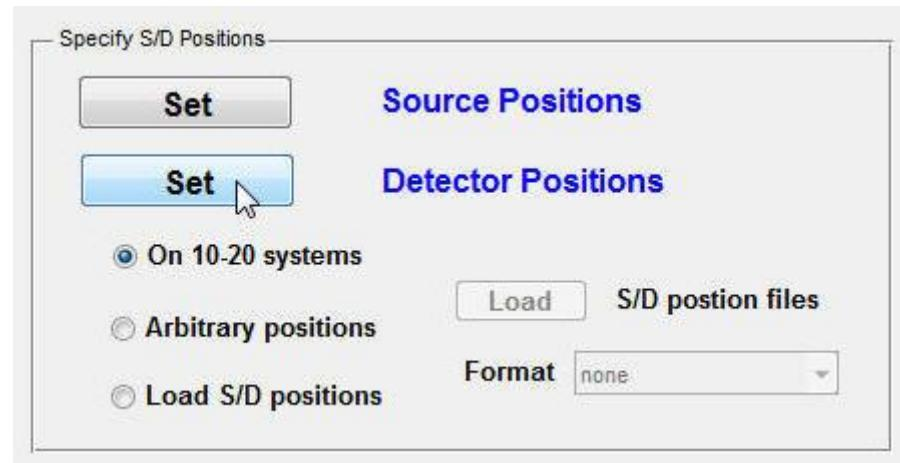
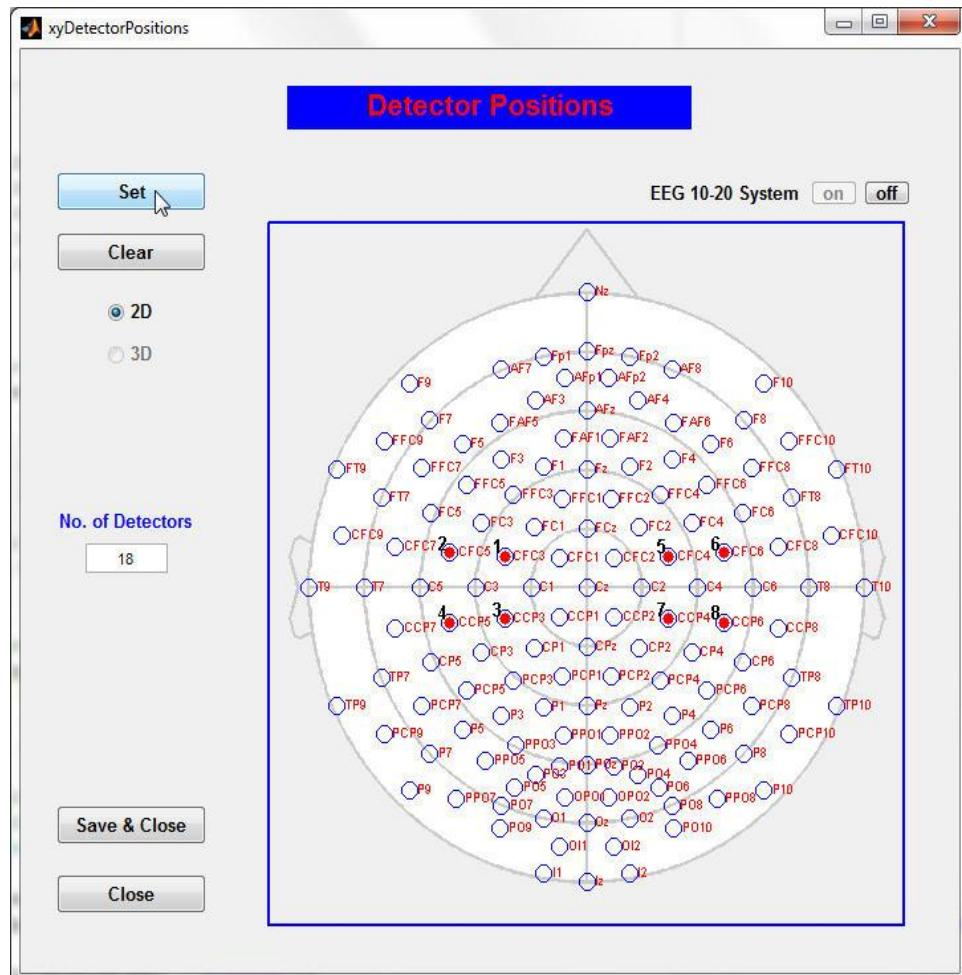

Figure 7-8. Selection of 'Set' Detector Positions.
Figure 7-9. GUI for specification of detector
Step 1: Clicking the 'Set' button next to the words '*Detector Positions*', as illustrated in Figure 7-8, brings up a new GUI entitled 'Detector Positions' shown in Figure 7-9.